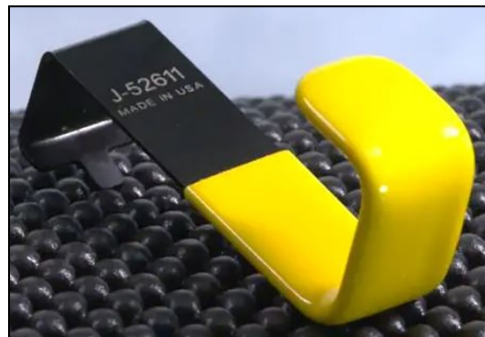
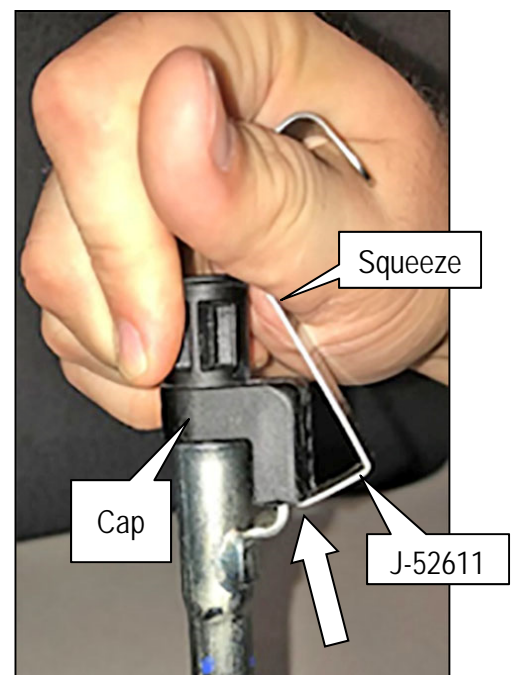

Figure 2
Figure 3
7. Install special tool CVT Charge Pipe Cap Release (J-52611) where shown in Figure 3.
NOTE: The tool shown in Figures 3 & 4 is the same as the one shown in Figure 2, but looks slightly different.
8. Squeeze the tool toward the cap, and then slightly lift the cap (see Figure 3).